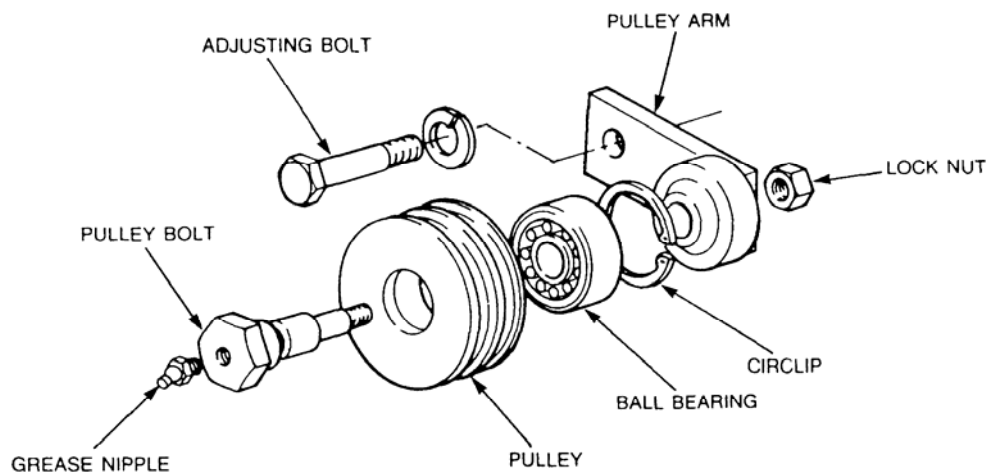

Figure 1 Jockey Pulley Exploded View
- a. Slacken the adjusting bolt on the pulley arm (refer Figure 1).
- Slacken the adjusting bolt on the pulley arm (refer Figure 1).